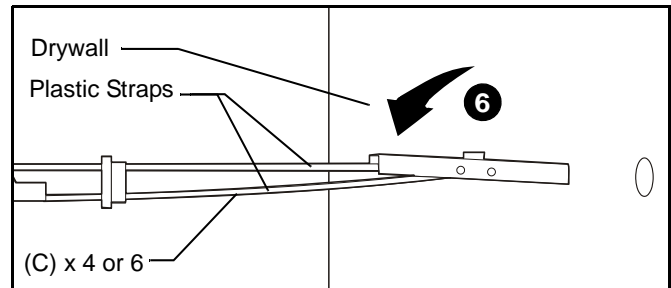

Figure 16
6. Hold metal channel on anchor (D) flat alongside plastic straps and slide channel through hole. (See Figure 16)